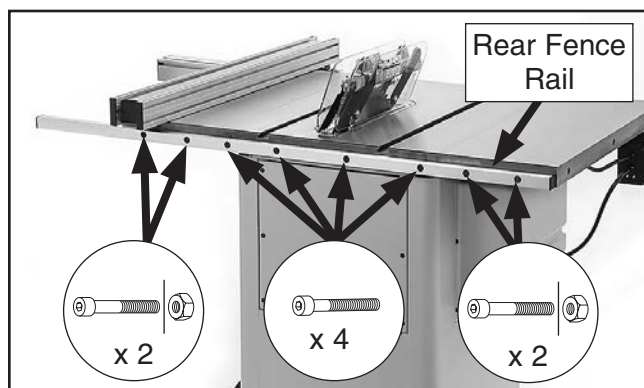

Figure 24. Rear fence rail mounted.
10. Install rear fence rail on rear of table using (8) M8-1.25 x 25 cap screws, as shown in **Figure 24**. Secure outer four cap screws with M8-1.25 hex nuts.